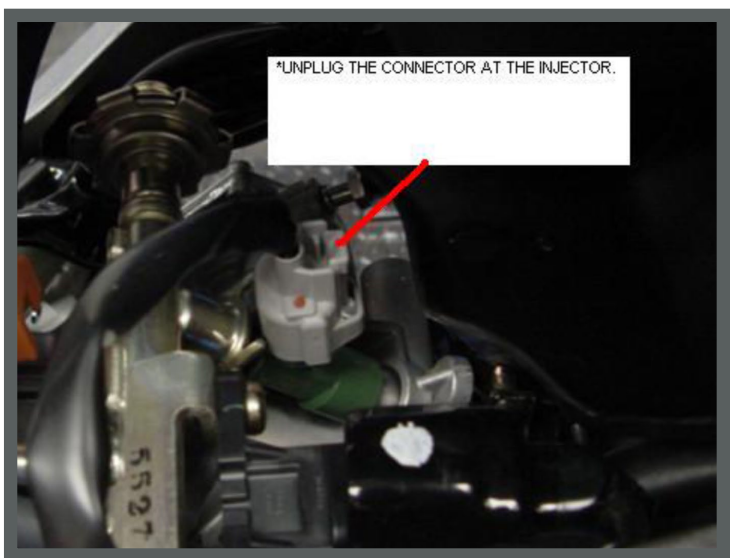

Figure 8
8. Remove the fuel tank mounting bolts. (See Fig 8)
11. Unplug the connector at the **fuel injector**. (See Fig 8)